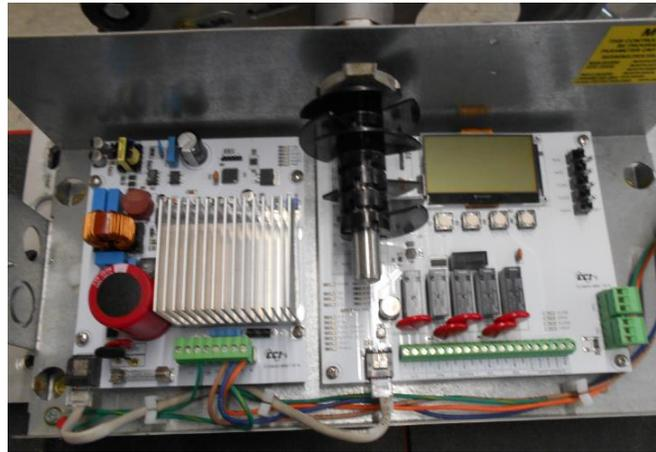

Figure 18 - ECI MOVFR-LCD Installed
- Mount and secure the ECI MOVFR-LCD Control board and Drive board as shown in Figure 18 - ECI MOVFR-LCD Installed.